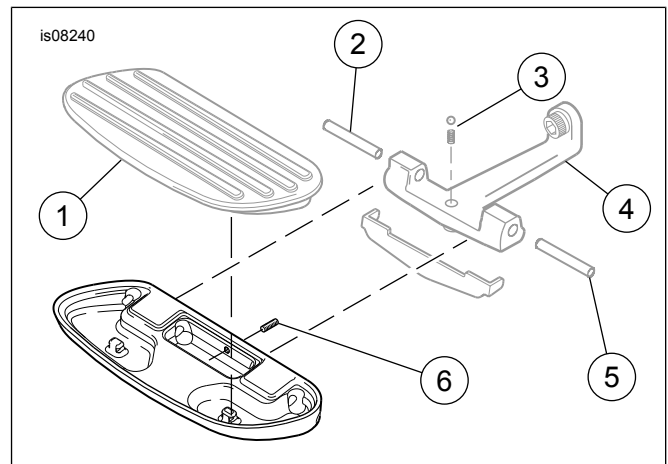

Figure 1. Service Parts
See Figure 1 and Table 1.
- See Figure 1. Place the detent spring into the hole in the support bracket, and rest the steel ball on top of the spring if not already in place.